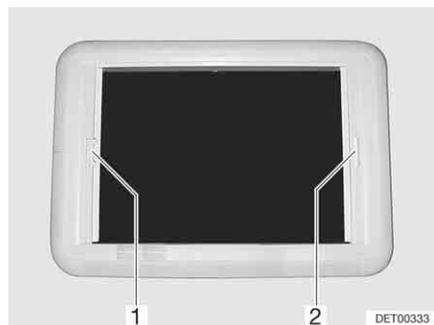

Fig. 64 Heki skylight, blind lock
- Pull blind at the handle (Fig. 64,2) to the opposite handle of the insect screen (Fig. 64,1) and allow to engage.
- With your other hand, push the unlocking bar on the handle of the insect screen (Fig. 64,1) towards the handle. The lock is released.
- Pull insect screen at the handle (Fig. 64,1) to the opposite handle of the blind (Fig. 64,2) and allow to engage.
- Hold the insect screen (Fig. 64,1) by the handle and push the unlocking bar towards the handle. The lock is released.